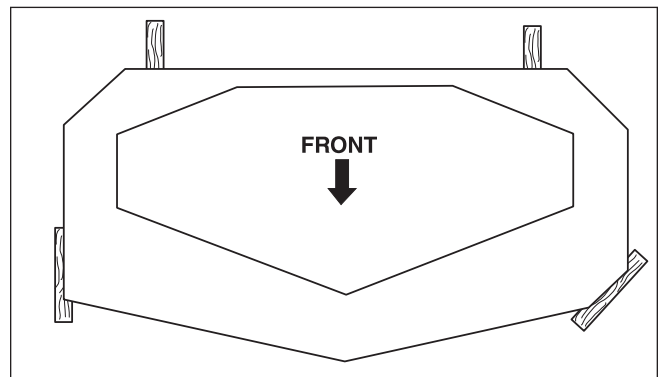

Figure 38. 2 x 4 Locations
6. Place 2 x 4 blocks under each corner of the mower deck with the 3-1/2" sides being vertical. Place a 1/4" (0,64 cm) thick spacer on top of the rear 2 x 4 blocks. See Figure 38.